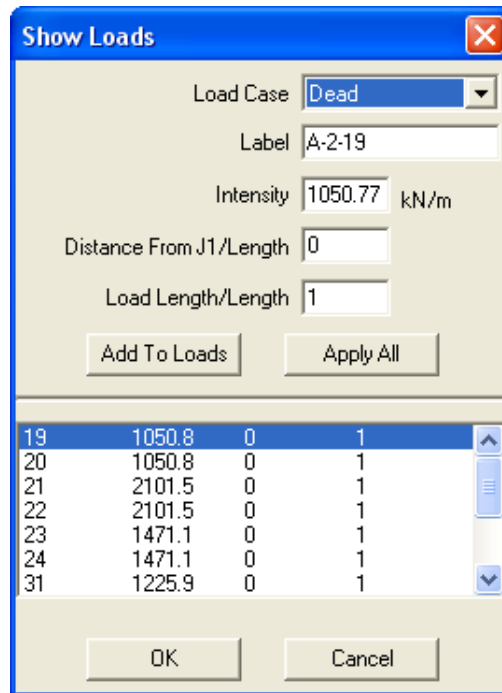

Figure 6-5 Circle dialog box
- In the Graphics area, point to the location of the circle center and click the left-mouse button. The dialog box in Figure 6-5 appears.